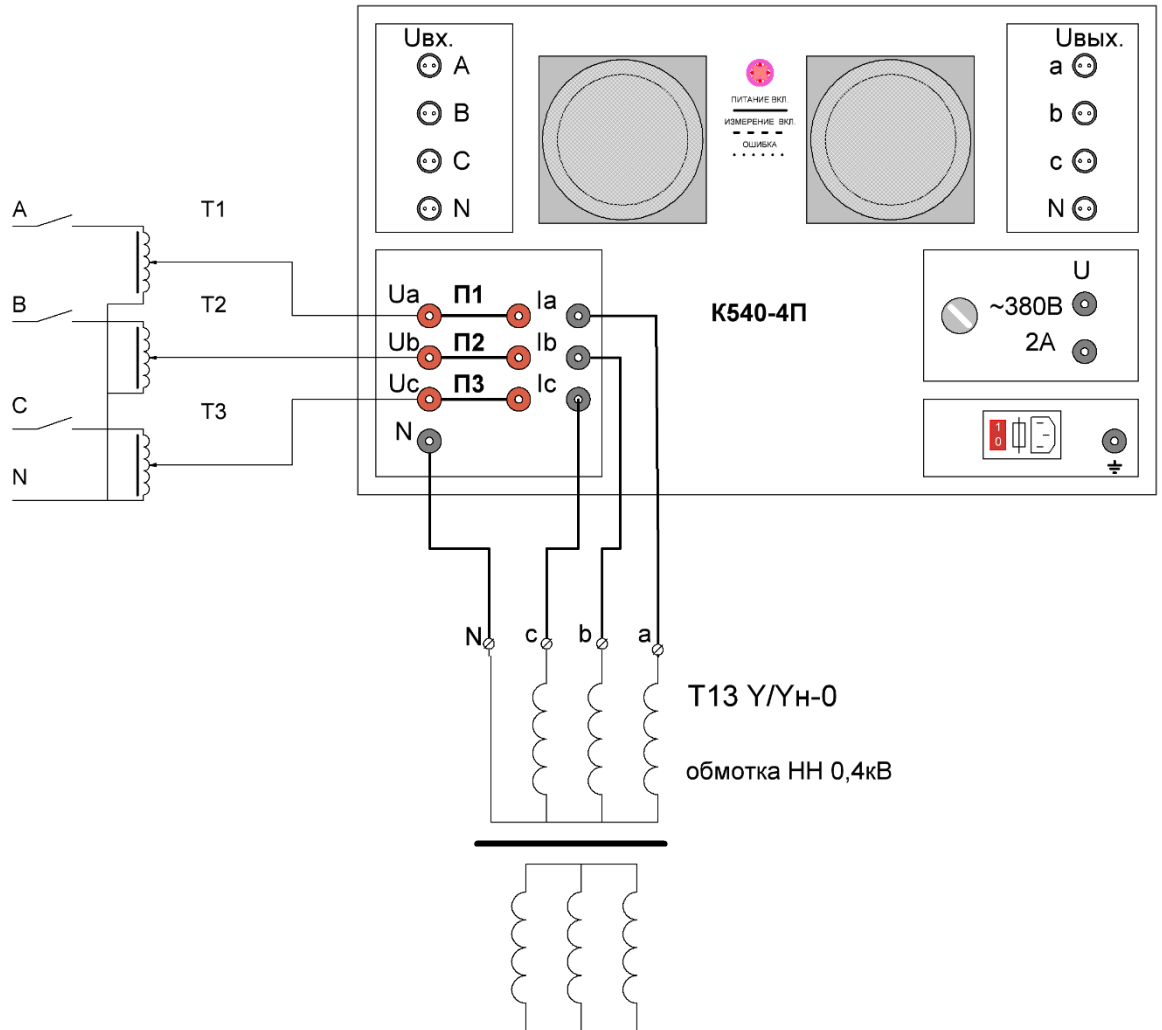

Figure 6.7
To perform these measurements, circuit in Figure 6.7 shall be assembled.
6.1.3.8 Set P1, P2, and P3 jumpers under Figure 6.7 and supply power to T1, T2, and T3 transformers. At that, control the symmetry of drive voltage by lines UfaseB, UlinB and, if necessary, adjust it – by turning the knobs of respective T1, T2, and T3 transformers.